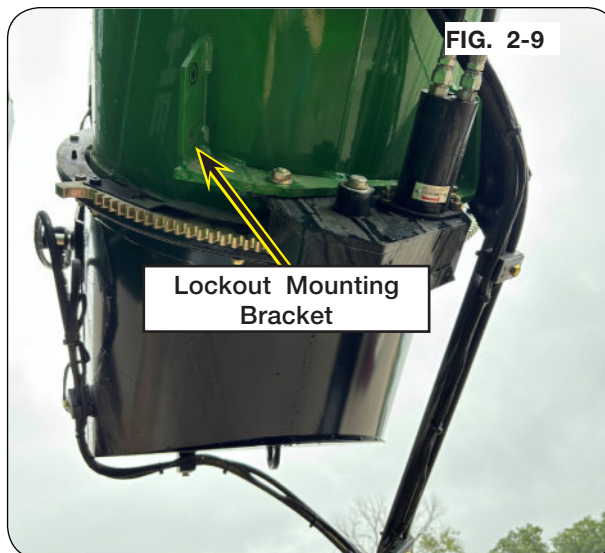

FIG. 2-9
3. Remove and discard auger spout rotate shipping bracket from the lockout mounting bracket before operating the spout. (FIG. 2-9)